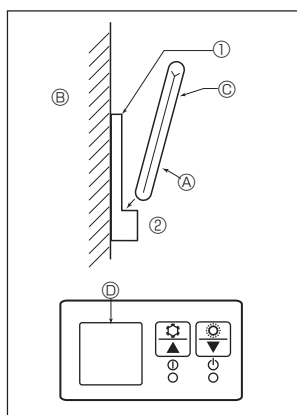

Fig. 6-7
2) Installationsmetode (Fig. 6-7)